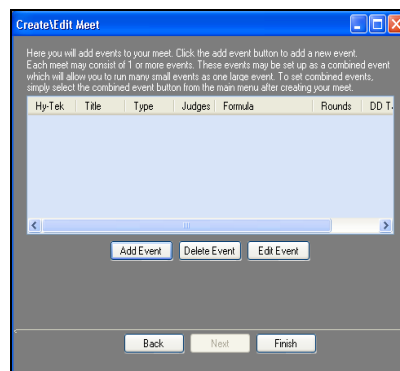

Figure 104: Create/Edit Meet Window-Add Events
- On the following screen (*Figure 104*), users can add, delete, and edit all of the events for the meet. To skip this step for now and add events at another time, click **Finish**.